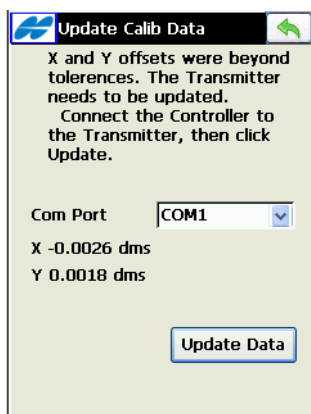

Figure A-19. Field Calibration Results
When the calibration completes, the *Update Calib Data* screen displays the offsets (Figure A-19 on page A-12).
If the offsets were outside the tolerance range, TopSURV will indicate that the transmitter needs to be updated (Figure A-19 on page A-12).
12. On the **Update Calib Data** screen, select the *Com Port* that connects the controller and transmitter and tap the **Update Data** button (Figure A-19 on page A-12).